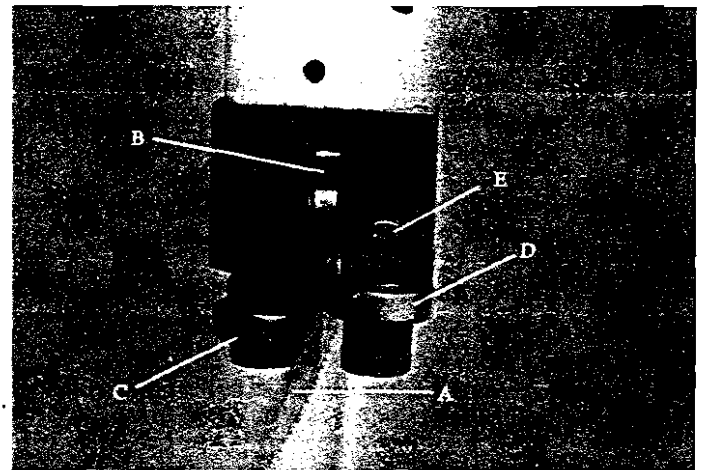
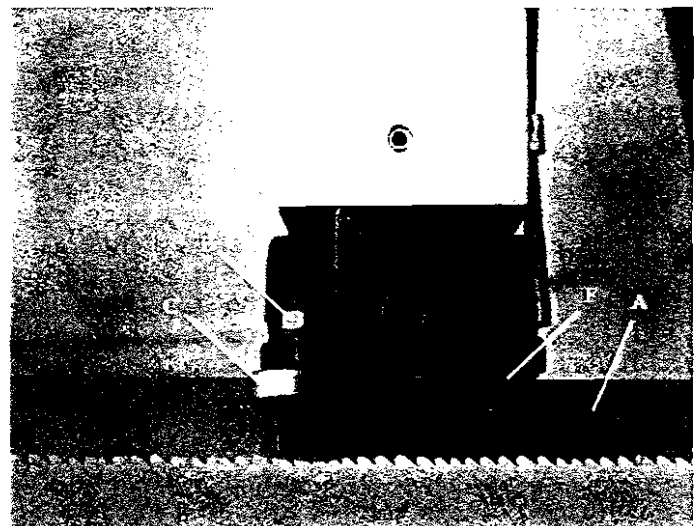

FIG.5
FIG.6
The back of the blade (A) Fig.5, should ride against the back-up support bearing (B) which is positioned at an angle so as to provide greater bearing support, eliminating bearing wear and extending blade life. The saw blade (A) should also ride between the two roller bearings (C) and (D) Fig. 5. The rear bearing (C) on the left hand blade guide can be easily adjusted to suit blade thickness by loosening nut (E). The bearing (C) is on an eccentric which enables it to be adjusted for the thickness of the blade. The roller bearings on the right blade guide bracket are adjusted for blade thickness in the same manner with the exception that the adjustable roller bearing is in the forward position.
Part (F) shown Fig. 6 is a tungsten carbide block, after complete the adjustments shown in Fig. 5, tighten the Part (F) onto the surface of the saw blade.